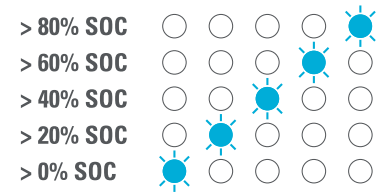

Figure 2
- 500 ms LED light pulse every 10 seconds used to indicate State of Charge (Figure 2)